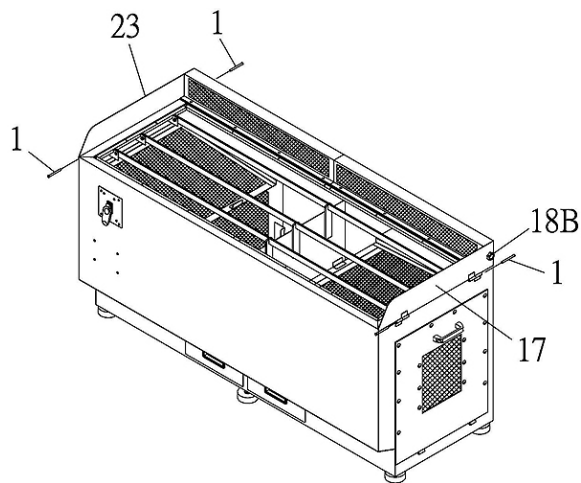

Figure 5-5
7. Use the Triangular Knob (No. 18B) to tight the Left Side Cover (No. 23) and Right Side Cover (No. 17) on the suction headsets. See (fig. 5-5)